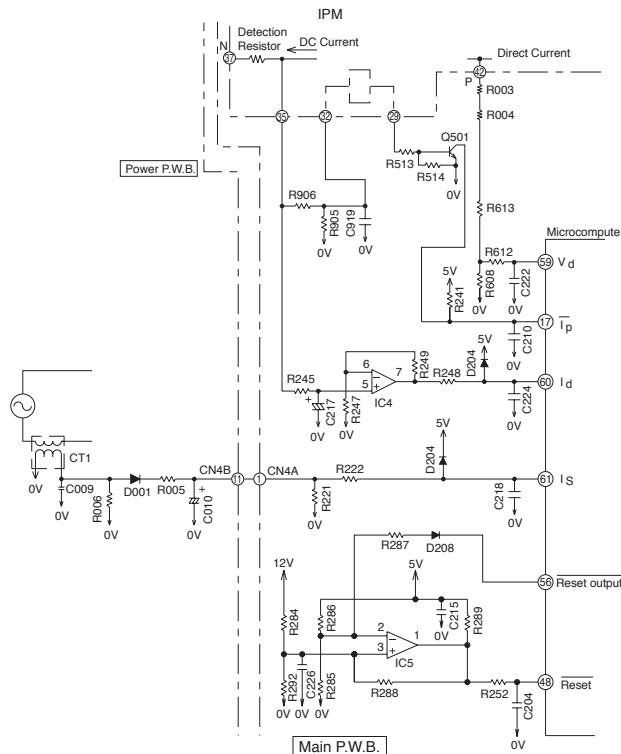

Fig. 6-2
ID OVL is watching and limits the compressor current through the detection resistor, which is built in IPM in order to control the compressor reliability. Since the compressor reliability is related with its speed, the ID OVL value is also linked with the compressor speed. Fig. 6-2 shows an ID OVL limitation curve.
Fig. 6-2. The filter consisting of R245 and C217 removes high harmonic frequencies from the voltage generated by the current flowing to Detection resistor; R245 and C217 average the voltage. This voltage is then input to IC4 pin ⑤ and supplied to microcomputer pin ⑩. The microcomputer compares this input with the set value, and if the input exceeds the set value, it enters overload control status.